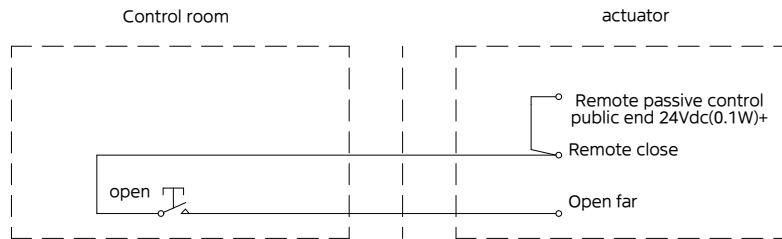
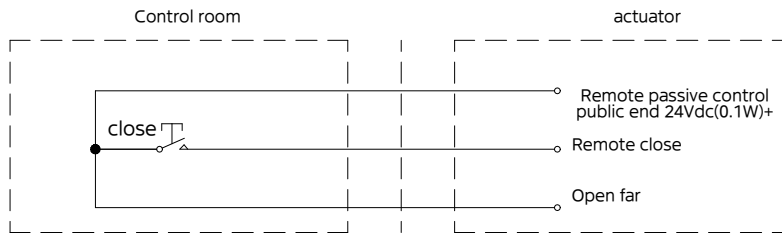
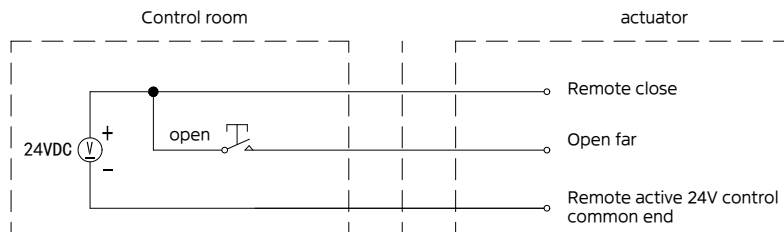
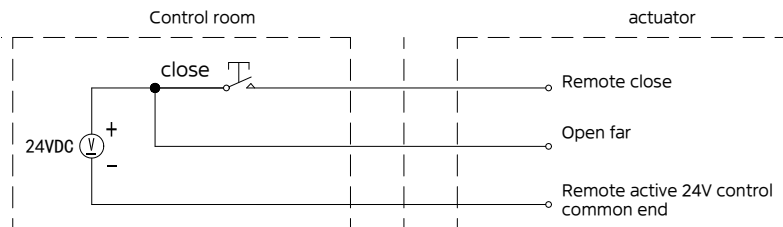

Figure 7 Two-wire control, with a letter open, no letter close
Figure 8 Two-wire control, with a letter off, no letter open
Figure 9 Two-wire control, on and off (using external 24V power supply)
Figure 10 Two-wire control, with a letter off, no letter on (using external 24V power supply)
7.1.3 Two-wire control, the cable can be connected according to Figure 7, Figure 8, Figure 9, Figure 10. The two lines in the menu should be set to "open" or "Close" according to actual needs.